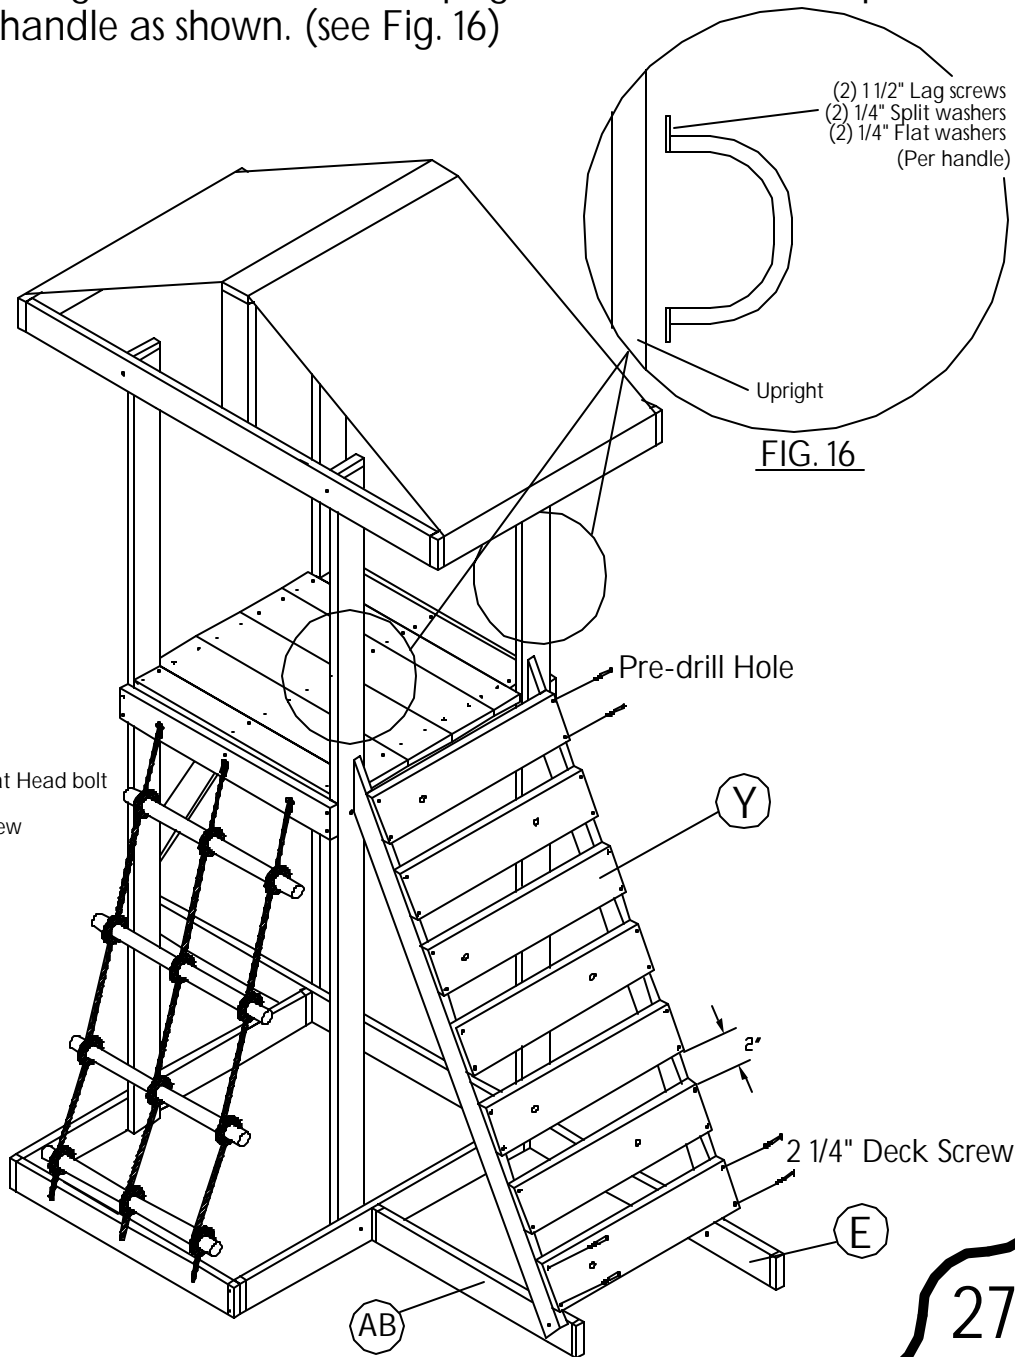

FIG. 16
Step 5: Attach the (2) yellow grab handles to the uprights 15" down from top of upright to top of handle as shown. (see Fig. 16)